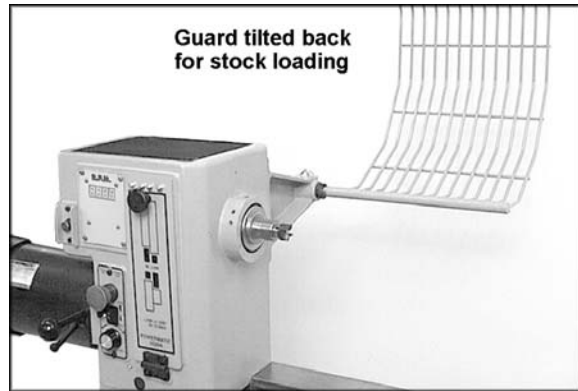

Figure 6
- The guard can be pivoted to one of two positions: Operating mode (shown on front cover) or tilted back for stock loading (shown in Figure 6).